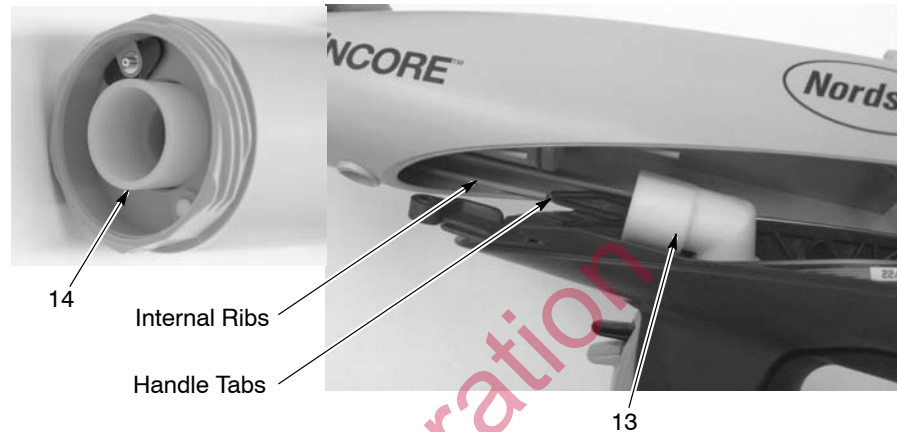

Figure 5-14 Outlet Powder Tube, Elbow, and Gun Body Installation
16. See Figure 5-14. Insert the outlet tube (14) with O-rings installed through the front of the gun body until the end is even with the end of the gun body.
17. Make sure the O-ring is installed in the groove on the inlet powder tube in the handle. Install the elbow (13) onto the end of the inlet tube.